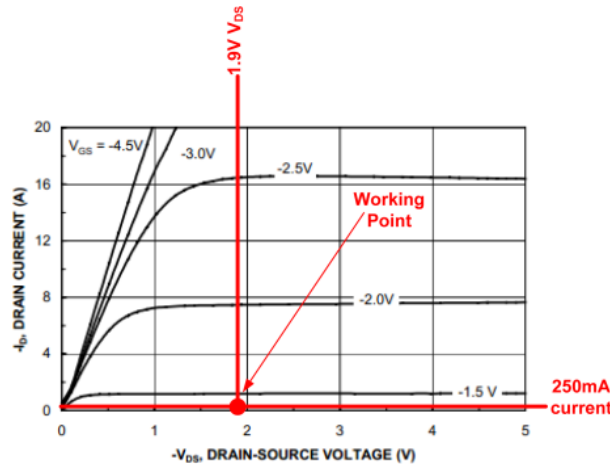

Figure 6. FDT434P Example Used in KSZ9031 Evaluation Board
- The MOSFET must allow driving the current (i.e. ≈250mA) at 1.9V VDS (LDO minimum drop-out) with a -VGS below 2.5V. Figure 6 illustrates the FDT434P example that is used in the KSZ9031 evaluation board. This parameter is particularly important to note as the MOSFET must be allowed to drive the current required with the swing available on the gate drive at the minimum LDO voltage drop. Additionally, $V_{DS_{MIN}}$ is $(3.3V - 5\%) - 1.26V \approx 1.9V$ and the MOSFET must be able to sustain approximately 250mA at 1.9V VDS.
- Per Figure 6, the working point shows that the MOSFET allows the voltage to drive the current at 1.9V voltage drop with a -VGS below 1.5V. FDT434P has been chosen mainly for cost.